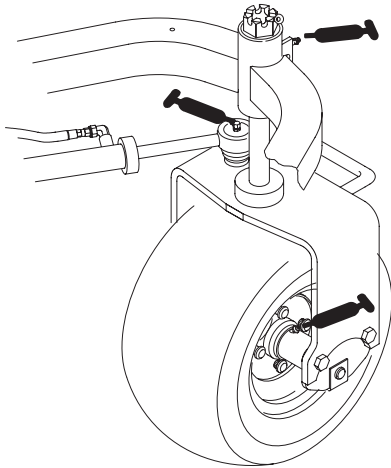

Figure 41
- Rear wheel hub (1)
- Castor bearing (1)
- Steering cylinder (2) (Fig. 41)